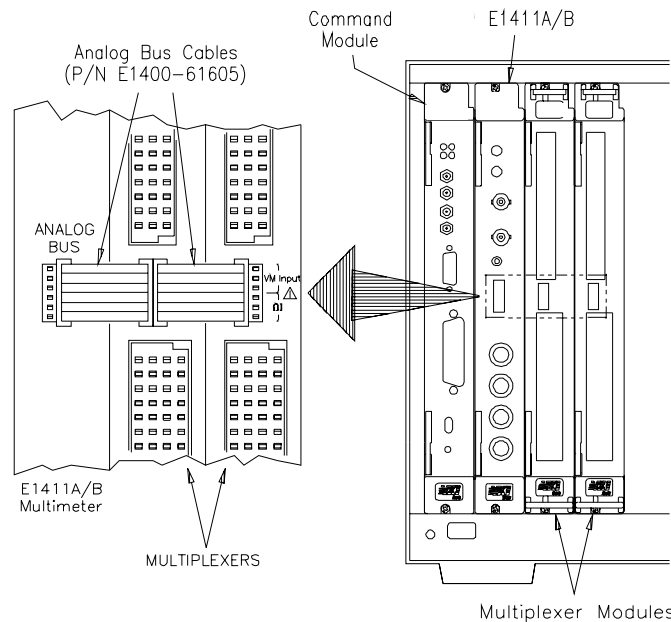

Figure 1-9. Agilent E1411B Connections to the Analog Bus
The analog bus provides a common bus to all switch modules in multiple switch cards. A multimeter or other instrument can be connected to the analog bus. Use flat ribbon analog bus cables between Multiplexers and other Agilent VXI modules that have an analog bus (both C-size modules or B-size modules in a C-size adapter). Agilent E1411B 5-Digit Multimeter users (and Agilent E1326B in a C-size adapter) must continue the analog bus connection between Multiplexers and switch modules to the multimeter in order to use the scanning and measurement capability the multimeter has to offer. These cables provide the input to the multimeter from the multiplexer/switch channels and fit under the Multiplexer's optional terminal cards. Refer to Figure 1-9.
**Note** **To use the Agilent E1326B 5½-Digit Multimeter in a C-size adapter:** Use the 19.5 inch analog bus cable part number E1326-61611 for analog bus connection between the E1326B and the E8462A. The cable described in Figure 1-9 will be too short for connection to the Agilent E1326B.